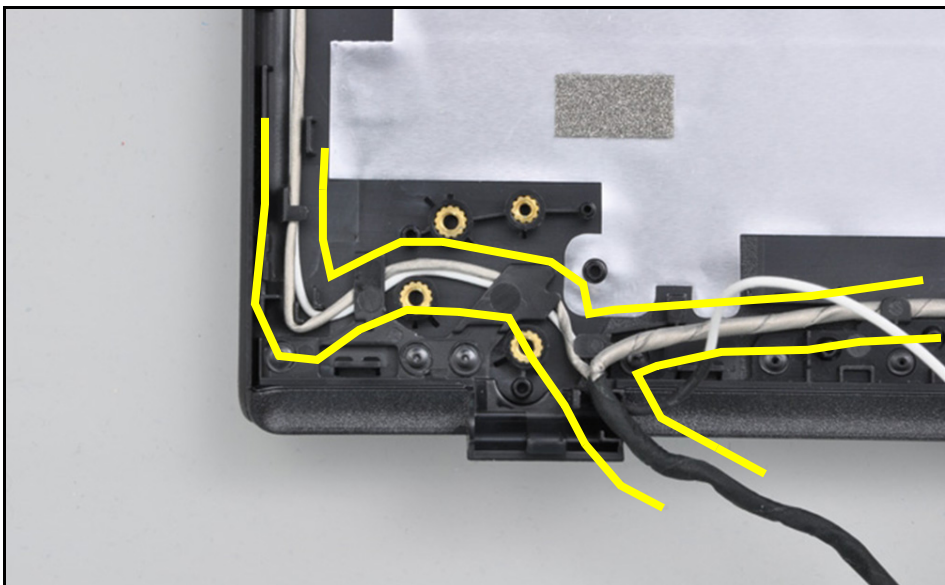

Figure 3-76. Replacing the eDP & Camera Cable
3. Route and secure the eDP camera cable carefully to the indicated portion of cable guides on the bottom left portion of the LCD cover (Figure 3-76).